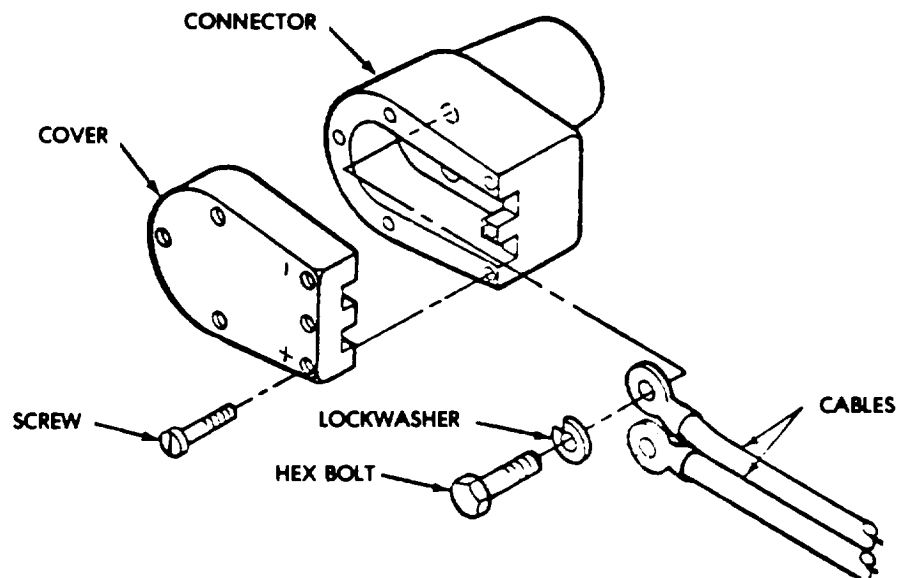

Figure 4-21, Connector Assembly.
b. Connector Assembly Removal. (See figure 4-21.)
- (1) Remove the cover from connector by removing screws.
- (2) Remove the cables from connector by removing bolt and lockwashers.
c. Connector Assembly Replacement. (See figure 4-21.)
- (1) Attach cables to connector with lockwashers and bolts.
- (2) Attach cover to connector with screws.